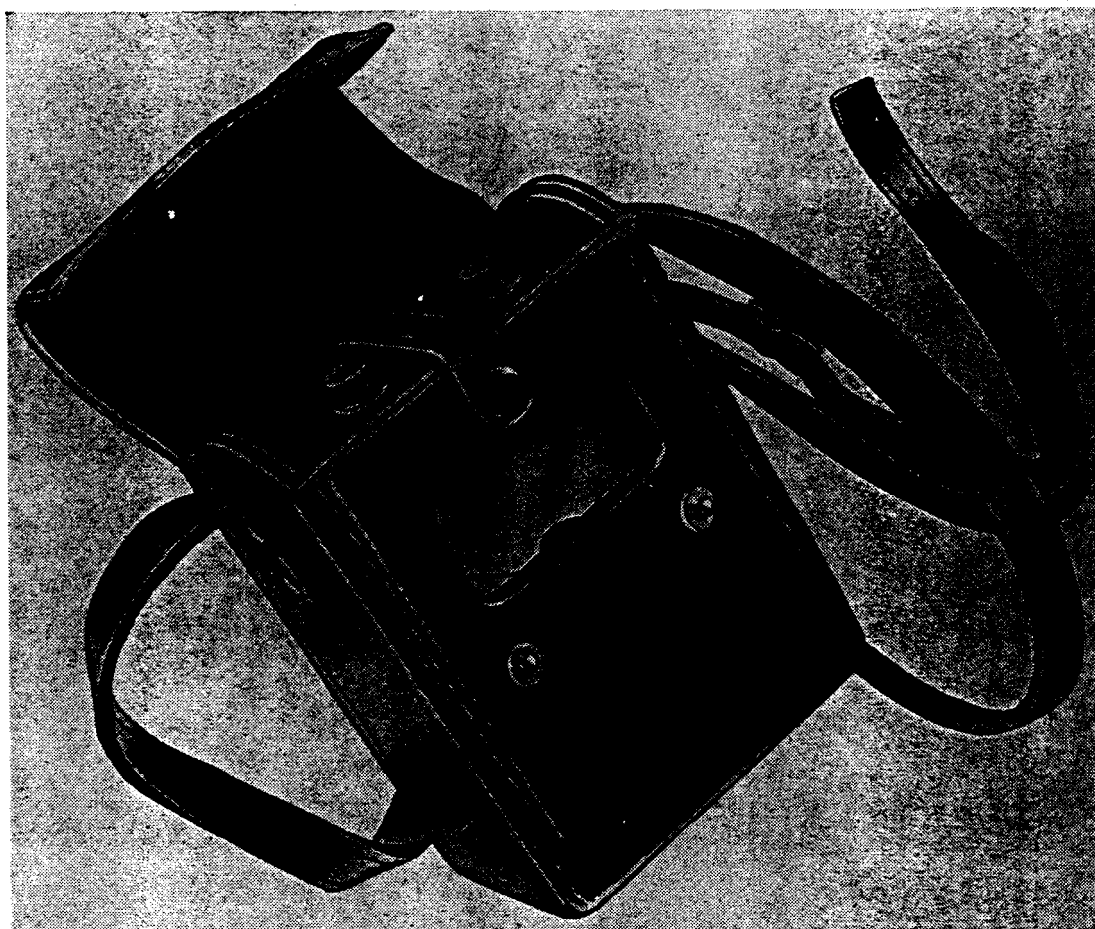

Figure 48. Galvanometer.
c. Galvanometers. The galvanometer (fig. 48) is a sensitive voltage-measuring device used to test electric firing circuits. It has a special internal dry cell which produces the voltage required for testing. It can be connected in an electric firing circuit, and readings can be taken without danger of initiating the charges in the circuit.